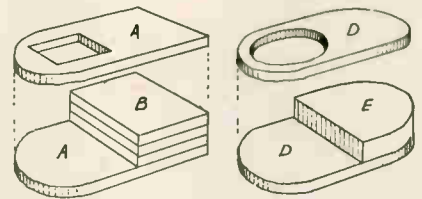
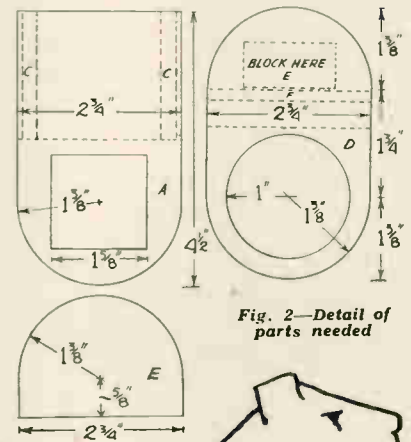

Fig. 1—The wooden base portion
Fig. 2—Detail of parts needed
The construction of the articles is extremely simple, as the diagrams in Fig. 1 show. The inkstand is made up of five pieces, two pieces as A, and three pieces as B. Pieces B, measure  $2\frac{1}{4}$  ins. by  $2\frac{1}{4}$  ins. The opening for the ink bottle will be cut away on one of the pieces, A, to the square given in the detail, Fig. 2. Glue the pieces together when cut and put them under
Two pieces of  $\frac{1}{4}$  in. thick stuff should be chosen for the top and bottom, D, with a  $\frac{1}{4}$  in. piece between them for piece E. Patterns for these pieces are given in Fig. 2. The terrier (F) may be cut from a close-grain hardwood and glued about  $1/16$  in. away from block, E, to allow the lid of the matchbox to slide down behind it as shown in the sketch of the finished article. Block, E, should be  $1\frac{1}{4}$  ins. high by  $1\frac{1}{8}$  ins. wide and  $\frac{5}{8}$  in. thick.